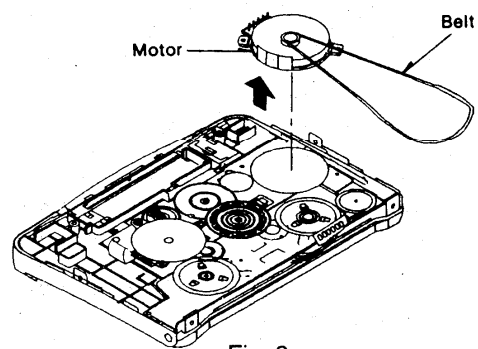

Fig. 9
3. Remove the motor in the direction of the arrow. (See Fig. 9.)
4. Remove the belt from the motor. (See Fig. 9.)